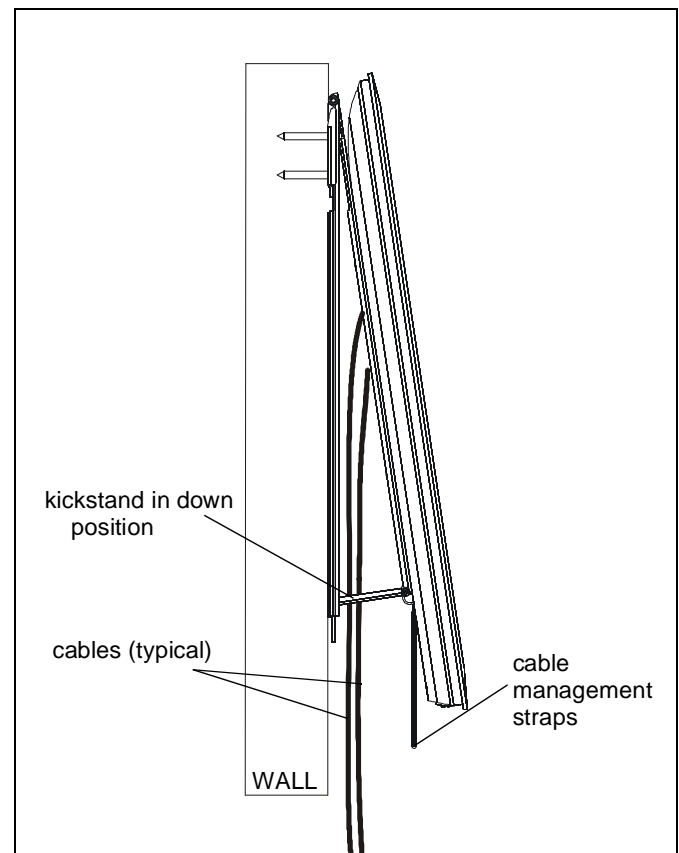

Figure 7
3. To disengage kickstand, slightly pull display away from wall and pull down on cable management straps to release kickstand. Slowly allow display to return to the wall. (See Figure 7)